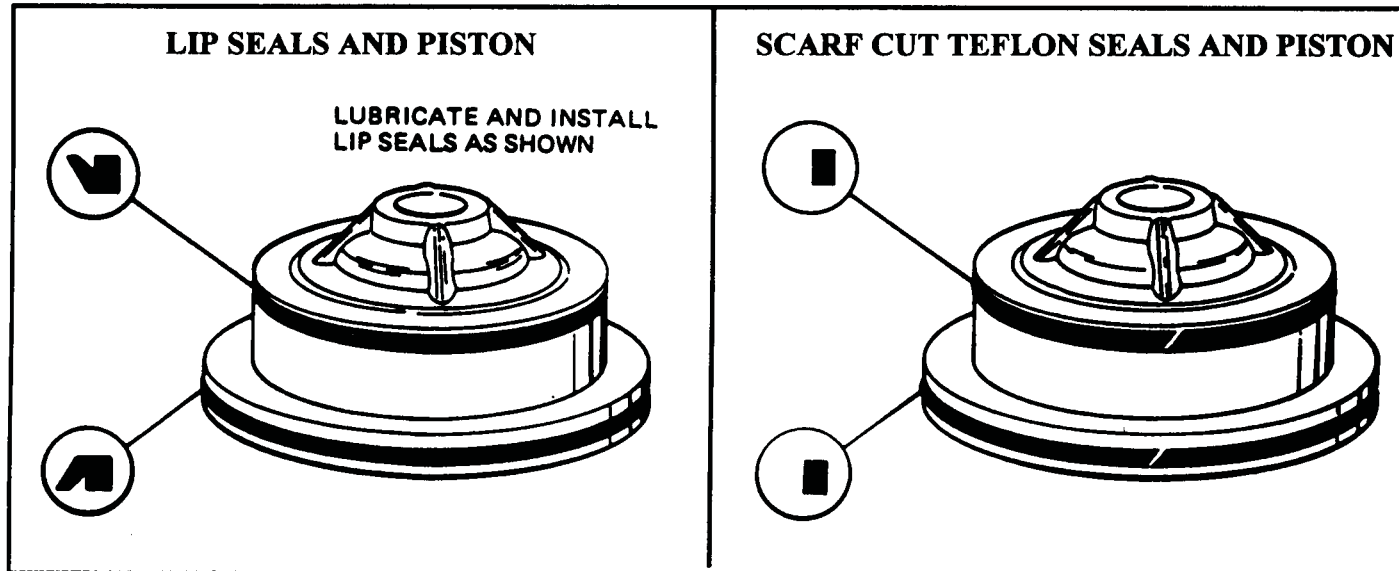

Figure 143
2. Install new seals on intermediate servo piston as shown in Figure 143, depending on which type of piston and seals that you are using.